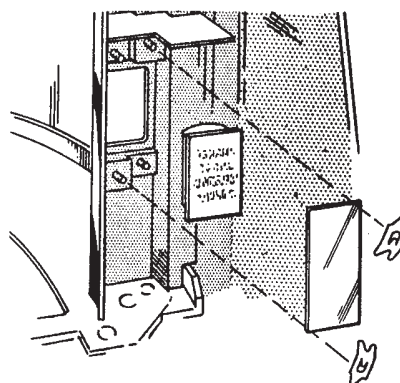

Figure 4.
2. In the 2-credit position, the lower left credit window lights up to indicate "10¢ Credit - Another Coin Required". This credit window, Part No. 505553 is available from your Seeburg Distributor and is installed as shown in Figure 4.